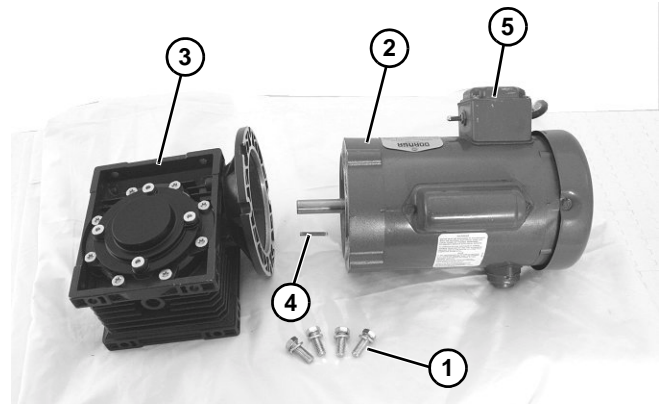

Figure 16
4. Remove four (4) screws (**Figure 16, item 1**). Detach motor (**Figure 16, item 2**) from gear reducer (**Figure 16, item 3**). Retain motor output shaft key (**Figure 16, item 4**).
5. With key (**Figure 16, item 4**) in keyway, slide motor (**Figure 16, item 2**) and gear reducer (**Figure 16, item 3**) together, noting where position of switch (**Figure 16, item 5**) will be during installation on conveyor.
6. Install screws (**Figure 16, item 1**) and tighten to 65 in-lbs (7.3 N-m).